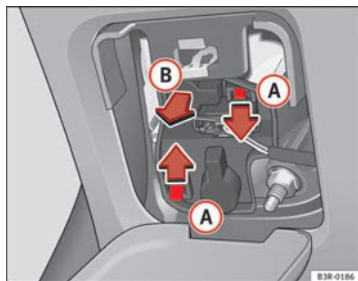

Fig. 216 Remove the bulb holder
- Press on the tabs **A** ⇒ fig. 216 in the direction of the arrows and remove the bulb holder by pulling in the direction of the arrow **B**.